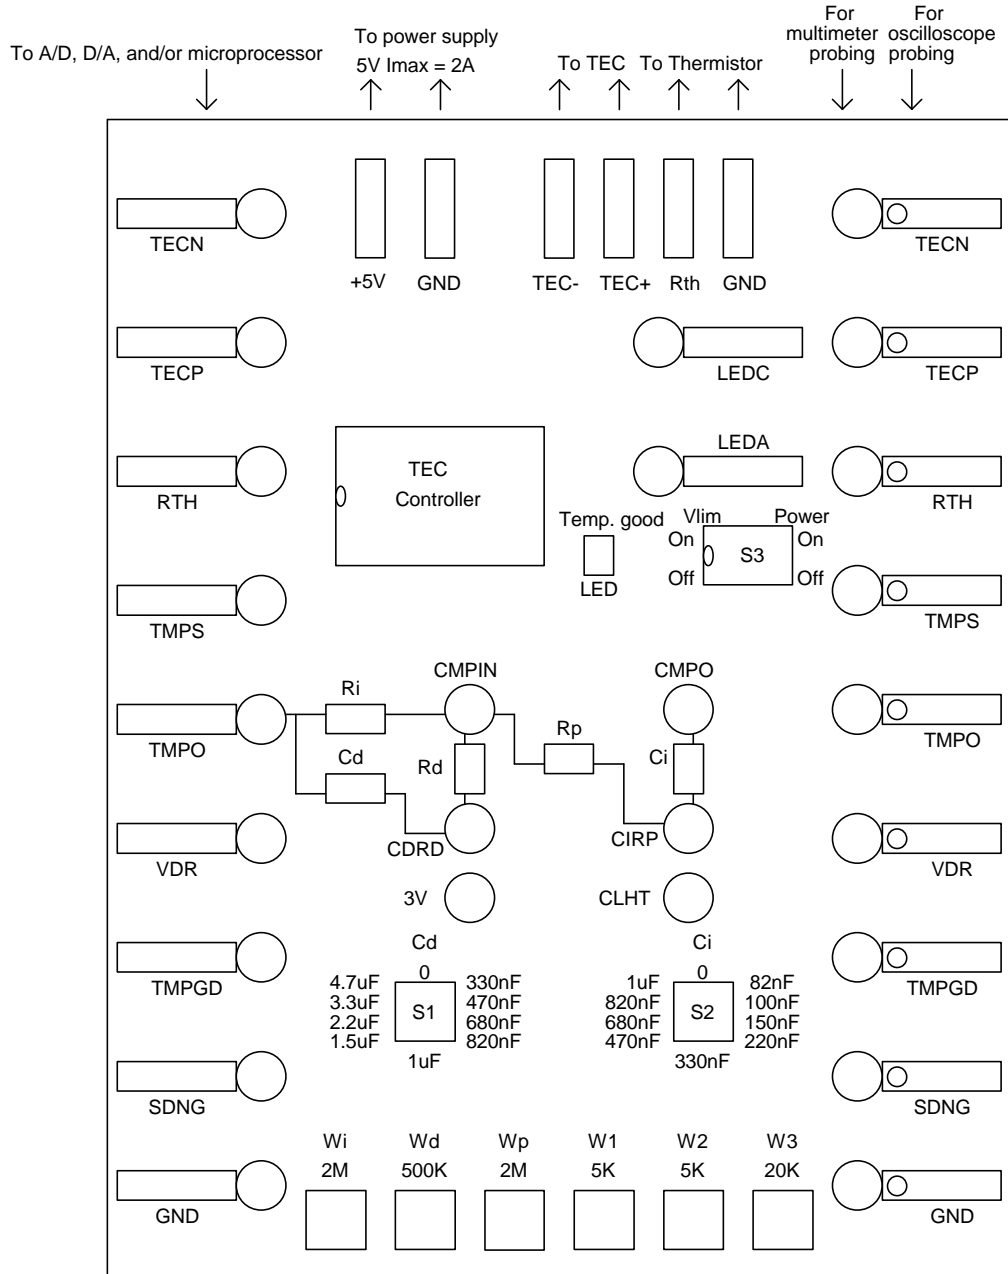
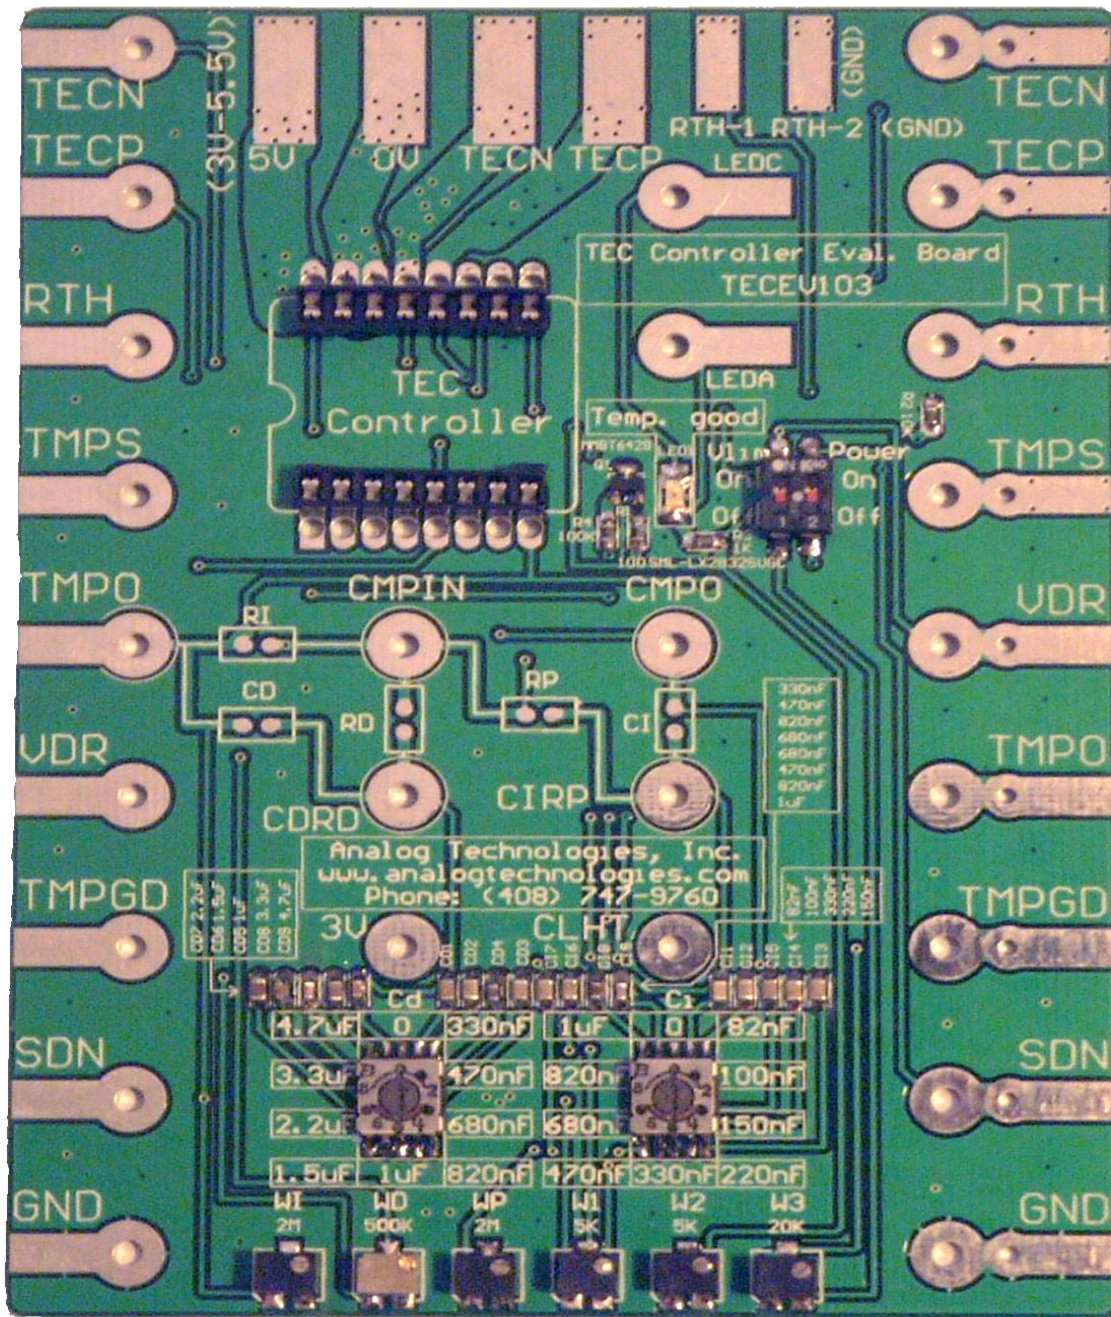

Figure 1 TEC Controller Evaluation Board TECEV103
Figure 2 TECEV103 Photo
Figure 1 shows the layout of the evaluation board and Figure 2 shows its photo.
- 3. After tuning, the values of the capacitors for Cd and Ci can be read off the capacitor selection switches. The values of the resistors, Ri, Rd and Rp, can be measured by an Ohm-meter by connecting to the resistor pins. As seen in the photo of Figure 2, Ri can be read off between TMPO and CMPIN test points; Rd can be read off
- a. To know the actual target temperature, use a voltage meter to measure the voltage between the TMPO and the GND pins, the reading result is: target temperature = 15°C + (TMPO voltage (V))*6.67°C for approximation (see the curve in the TEC controller data sheet).
- d. To shut down the TEC controller, turn the Power switch to the “Off” position, see Figure 2.